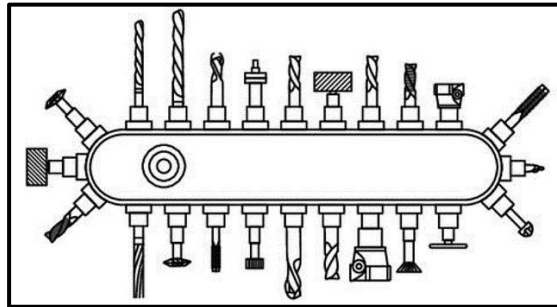

FIGURE 4.4
- D Change gears (1)
4.4 Identify the part of a CNC milling machine in FIGURE 4.4 below.